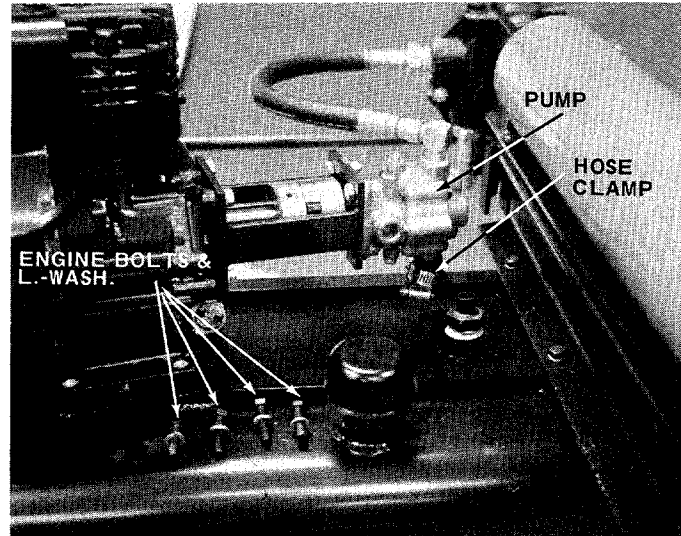

FIGURE 16
- A. Remove your engine bolts and lockwashers. See figure 16.
- C. Lift engine and pump assembly and rotate to one side. See figure 16.